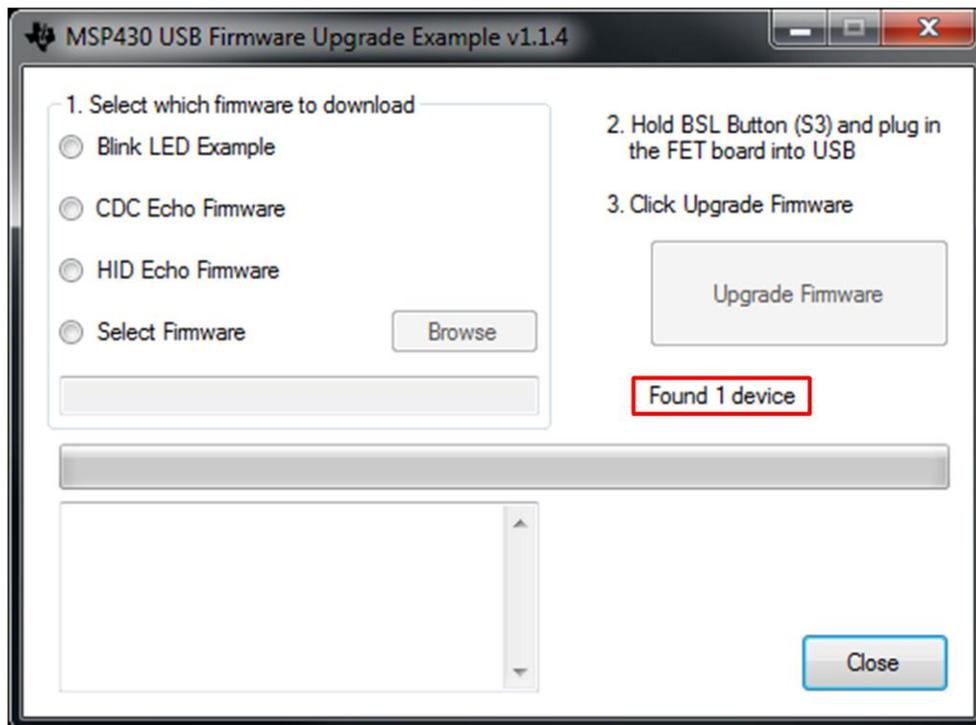

Figure 16. USB Firmware Upgrade Window
4. Go to the “SETUP” tan and select “Update Firmware”. Select OK to the message “Update MSP430 Firmware?” Accept the license and the message “Found 1 device” should appear as in Figure 16.